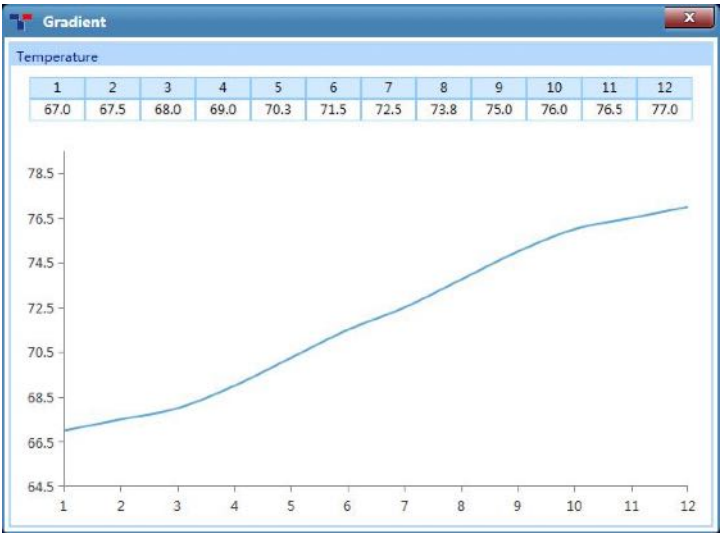

Figure D-5.6e Step Setting Dialog Box – Gradient Temperature Details
- **Details:** Users can click < **Details** > to the specific gradient temperatures of each column and the Gradient distribution, as shown in figure D-5.6e.